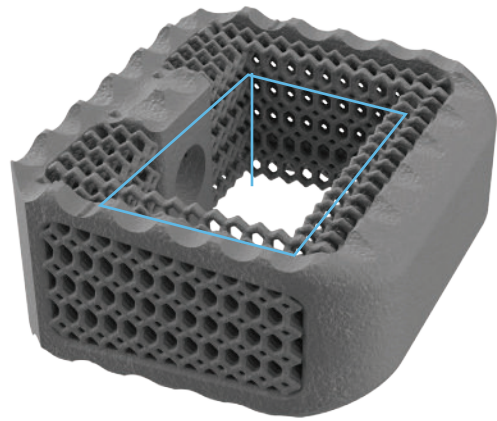

Figure 8
- Pack the center cavity of the implant with autograft and/or allograft comprised of cancellous and/or corticocancellous bone graft (Figure 8).